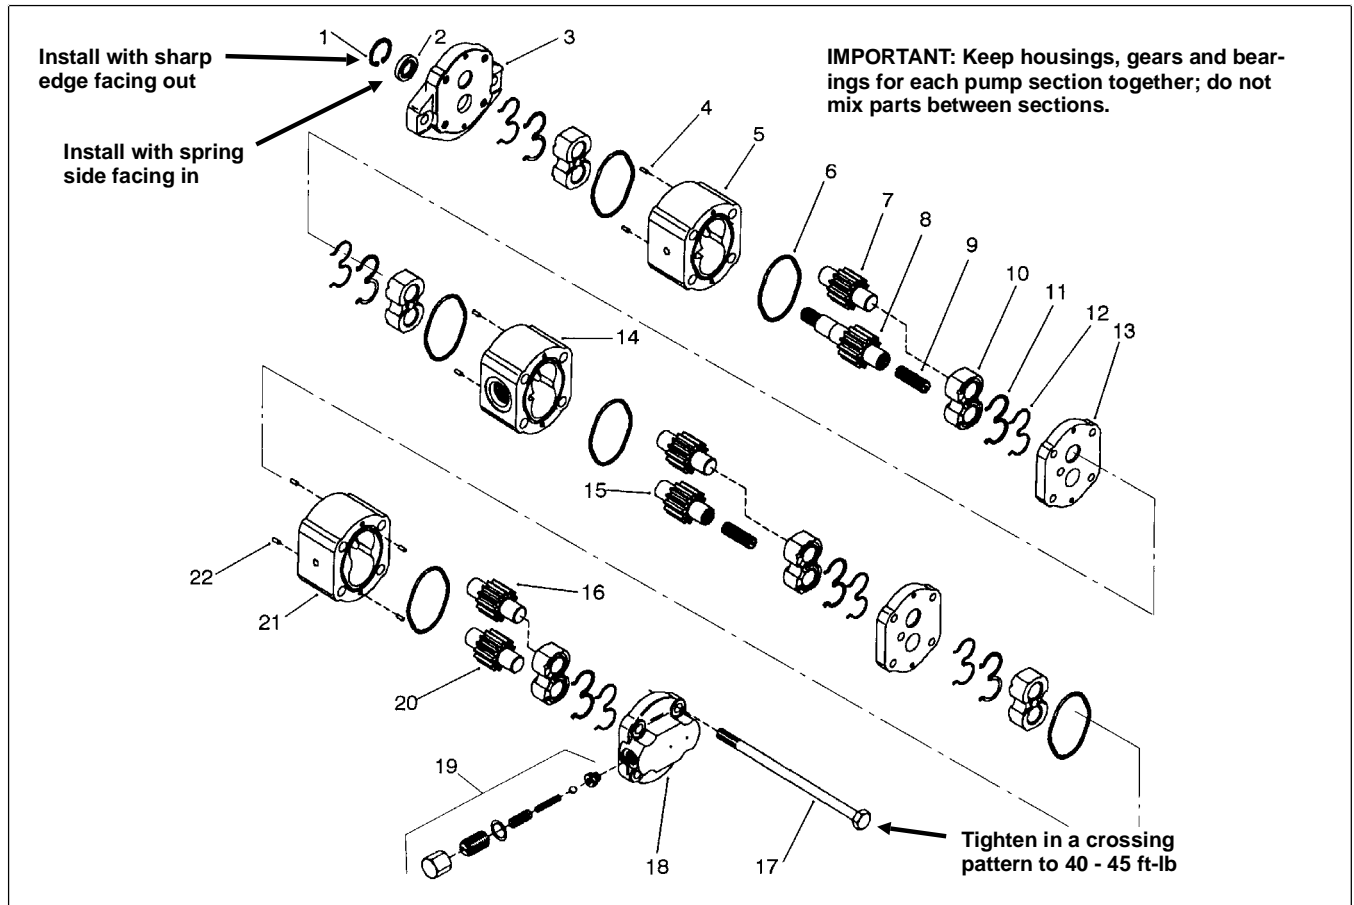

Figure 93
3. Remove retaining ring (Fig. 93, Item 1).
3. Secure the flange end of the pump (Fig. 93, Item 3) in a vise with the drive shaft pointing down.
4. Remove the four (4) bolts.